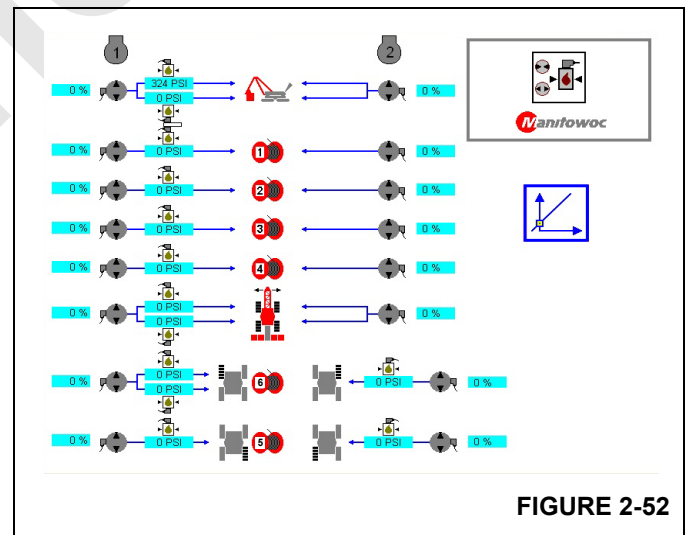

FIGURE 2-52
6. Then press  or  until a blue border appears around the icon shown (Figure 2-52)